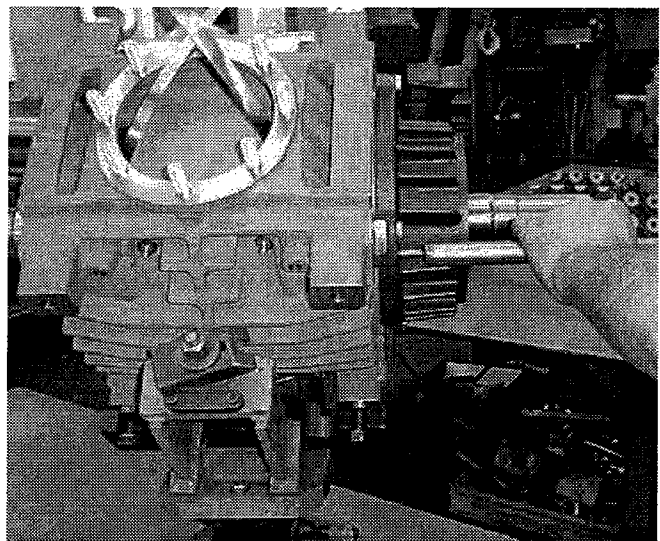

Fig. 8 Drive of the cylinder- and conical pins (see chap. 3.1)
- Fix the cylinder pin (63) and the conical pin (64) with a hammer (see fig. 8).
- Tighten the screws (38) in crosswise pattern (tightening torque 50 Nm).
- Insert the corrugated lock washer (30) into the cover.
- Lay the washers (36) into the bearing covers. Attach bearing covers (10) with shaft seal. Consider the marks on the washer. Turn in the screws (34) only so far, that the head of the screen has a distance to the cover of 3 mm.
- In addition, measure the radial clearance "A" of the cylindrical roller bearings (32). Before you do so, clean the bearings from oil and grease with benzine or fuel oil. The tolerances "A" have to correspond to the dimensions detailed in table 4.1.
- Pull the bearing inner ring (32) over the roller.
- Put two steel strips (E) under the rotor (3) inserted in the casing (1) and the casing covers such that their ends protrude through the inlet ports (Fig. 8). Put casing cover (9) at the drive side together with o-ring (29), the assembled outer ring and the rollers of the bearing (32) onto the shaft and the inner ring of the cylindrical roller bearing. Put a steel plate in front of the end plate and a steel tube of suitable diameter over the shaft. Mount and tighten a hexagonal head screw and a big washer into the thread at the shaft as to press the face of the rotor (3) tightly against the casing cover (9). Attach the casing cover (9) with the screws (38) at the casing (1).
- The opposite side of the compressor vacuum pump is still open. Measure the gap between rotor (3) and casing (1) with a gauge at the flange shaft and check whether the rotor is centered in the casing bore.
- If required, correct the centre position by loosening the nuts of the casing cover (9) and adjusting the casing cover accordingly. Re-tighten the nuts at the casing cover (tightening torque 80 Nm). Put the opposite casing cover onto the inner ring of the cylindrical bearing (32) and tighten the screws. Remove the clamping device from the drive side. Fasten a lathe dog to the free end of the shaft and use it to turn the rotor until the steel strips (E) slip off from below the rotor. Then pull the steel strips out through the inlet ports.